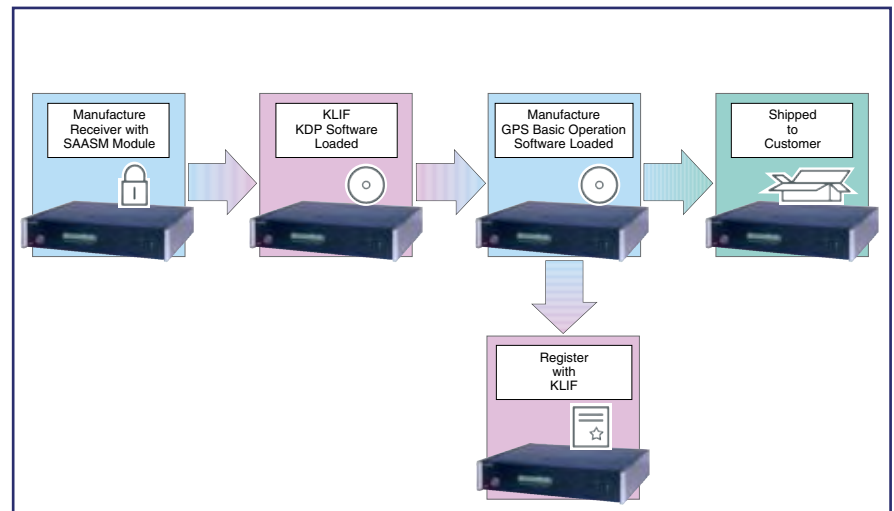

Figure 1
The key to preventing spoofing is to deploy a GPS receiver that can acquire encrypted GPS signals referred to as P(Y) coded signals, which are more robust and jam resistant. GPS satellites broadcast two signals: a civilian, unencrypted signal (referred to as C/A) that all GPS receivers can access, and the military encrypted coded signal P(Y). GPS devices in compliance with SAASM can receive and decrypt the P(Y) code (when keyed), which authenticates that the signal originated from the GPS satellites. The code frequency ranges are shown centered about L1 in Figure 1.
Figure 1 shows the SAASM GPS receiver manufacturing process and integration into PPS HAE.